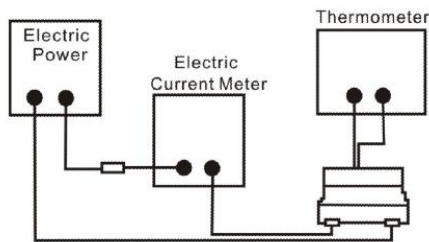

Fig.5.3.3-1
- d. Definition of Temperature rise current: DC current that causes the temperature rise ( $\Delta T = 40^{\circ}\text{C}$ ) from  $20^{\circ}\text{C}$  ambient (see Fig. 5.3.3-2).